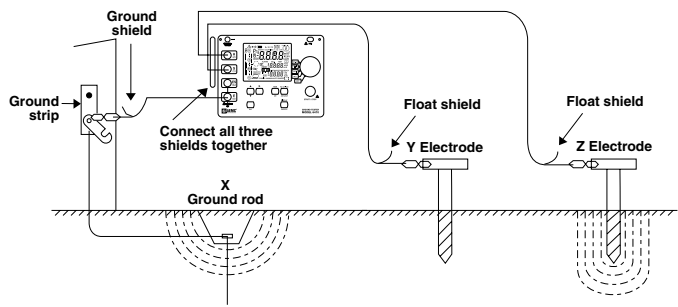

Figure 28
C) If a satisfactory low voltage value is still not obtained, the use of shielded cables may be required. The shield acts to protect the inner conductor by capturing the voltage and draining it to ground. (Figure 28)